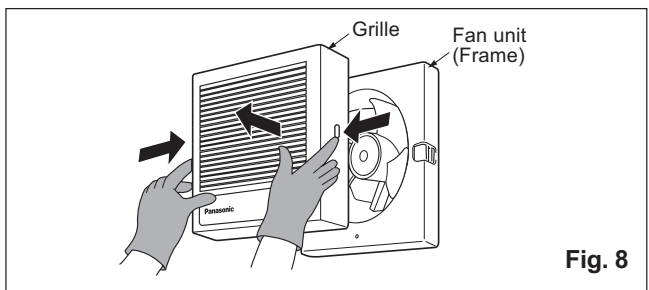

Fig. 8
10. Remove the grille from the fan unit. Press the spring locks on the sides and pull the grille back. (Fig. 8)
- Remove the grille from the fan unit. (Fig. 8 on page 6)